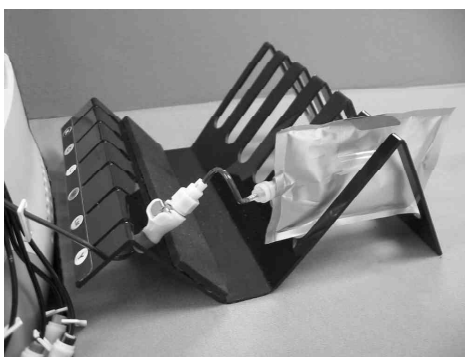

Fig. 5
- c. Place the bag in the holder. See Fig. 5.